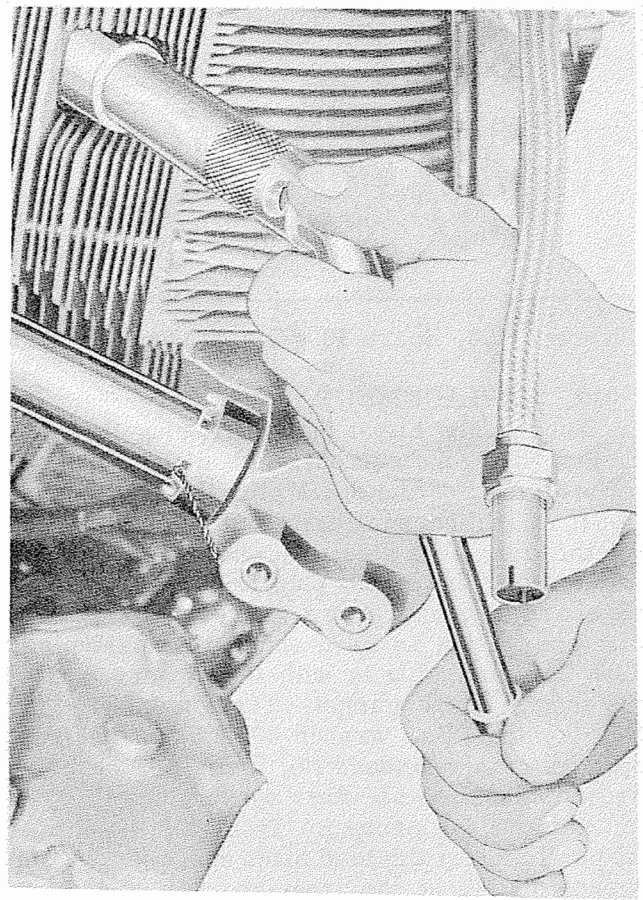

Figure 7-98. Removing Spark Plug
b. Remove the spark plug. Use wrench 807265 on the front spark plugs in cylinders No. 9 and No. 11. Use wrench 808520 on all other spark plugs. See figure 7-98.